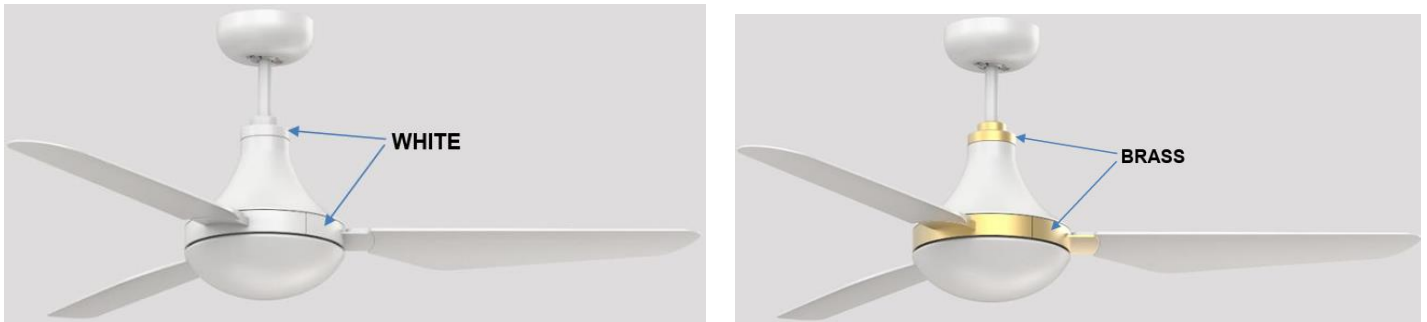

Fig. 5
**NOTE:** for SKU#216181 LEYNDELL fan, there are 2 pcs Bolt and pin covers (White 1pcs / Brass 1pcs) & 6 pcs blade brackets (White 3pcs / Brass 3pcs). You can choose the Bolt and pin cover / blade brackets of your favorite color (White or Brass) to assemble the fan. (Fig.5)